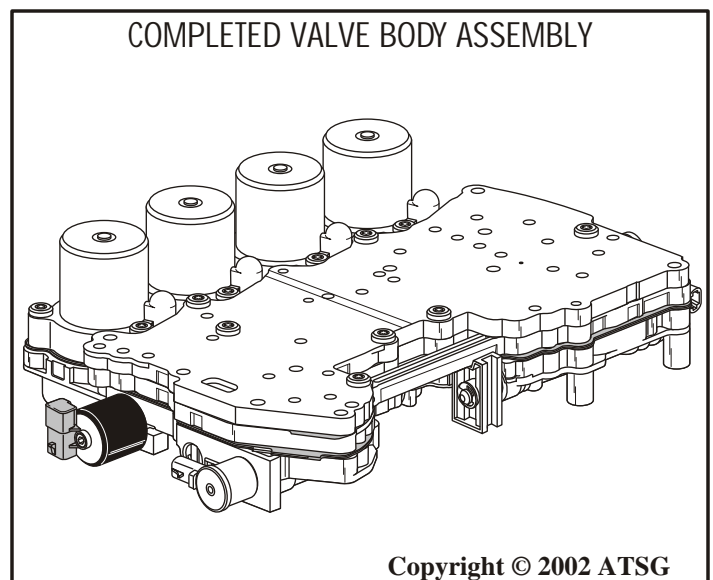

Figure 173
35. Set the completed valve body assembly, as shown in Figure 173, aside for final assembly.